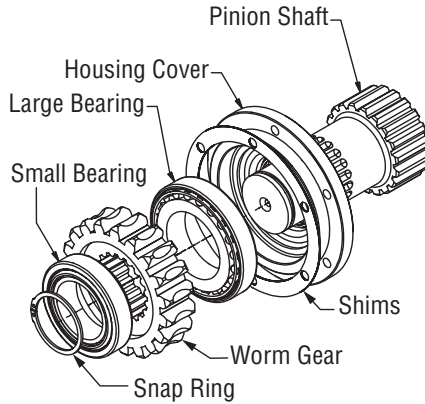

Figure 5-19, Pinion Shaft Assembly
13. Install the pinion shaft assembly and shims (if applicable). (Figure 5-19)